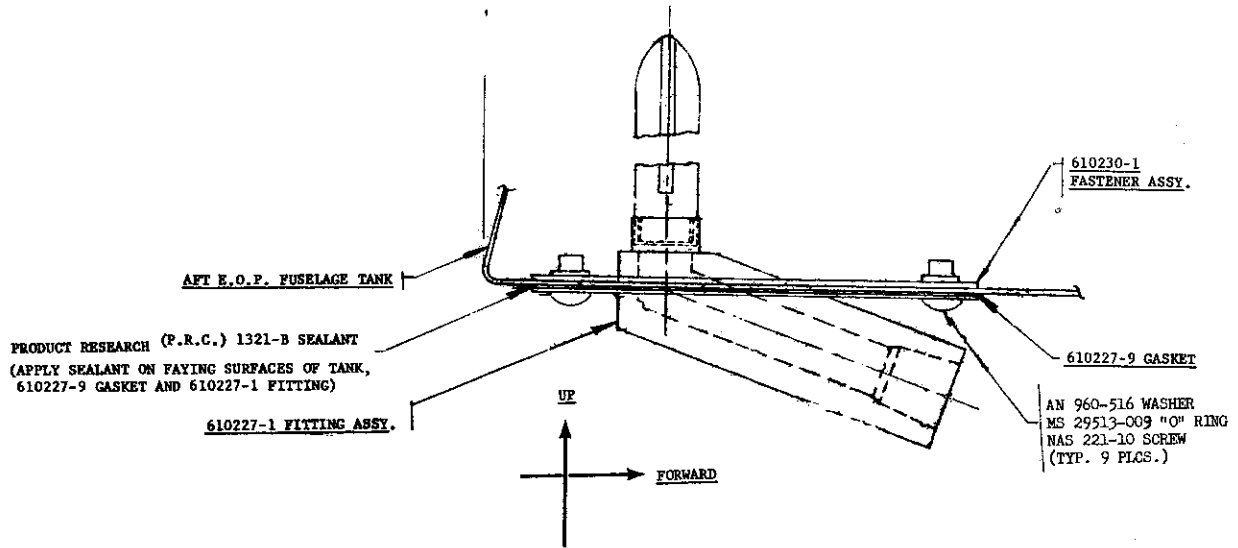

FIGURE 2
2. Remove excess weld of existing tank fitting and install 610230-1 nut plate assembly (See Figure 2) with two No. 3 flush rivets.
4. Position P/N 610227-1 fuel tank fitting assembly on 1.30 X 2.80 cutout as shown in Figure 2.
5. Apply PRC 1321-B sealant, install P/N 610227-9 gasket, NAS 221-10 screw, AN960-516 washer, and MS 29513-009 O-ring as shown and noted in Figure 2.